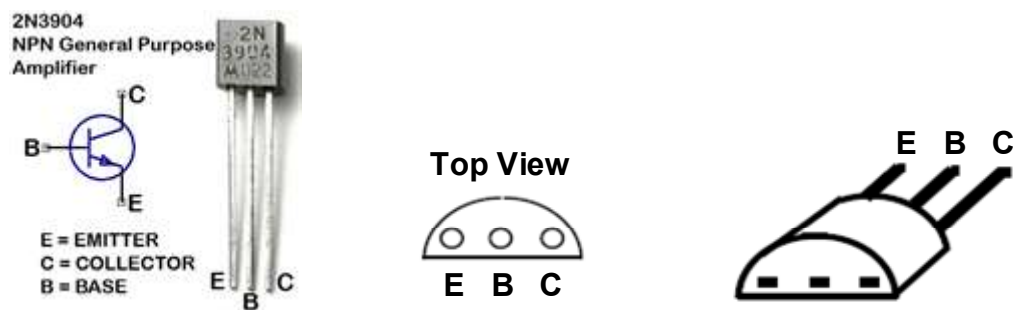

Figure 5.4: Pin diagram for BJT 2N3904
- Figure 5.4 shows the pin configuration of the 2N3904 transistor. Use the curve tracer to obtain the output characteristics of the NPN transistor. Set menu to BIP-NPN (bipolar-NPN), $V_{\max} = 10$ volts, $I_{\max} = 2\text{mA}$, and $P_{\max} = 0.4\text{W}$.